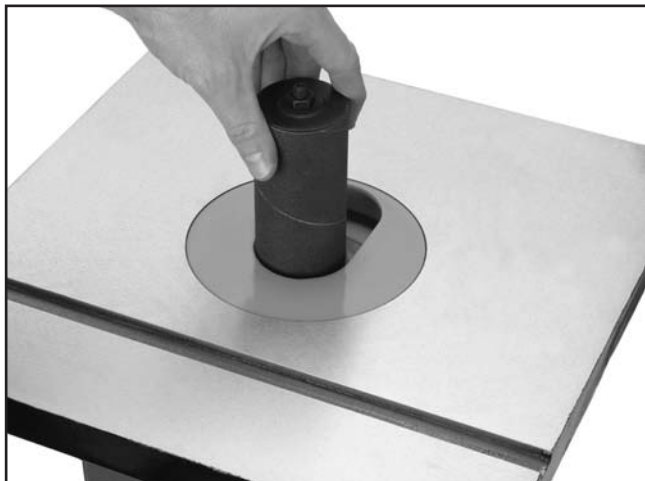

Figure 16. Inserting sanding drum.
10. Place the sanding drum into the spindle and thread it by turning it counterclockwise (**Figure 16**).